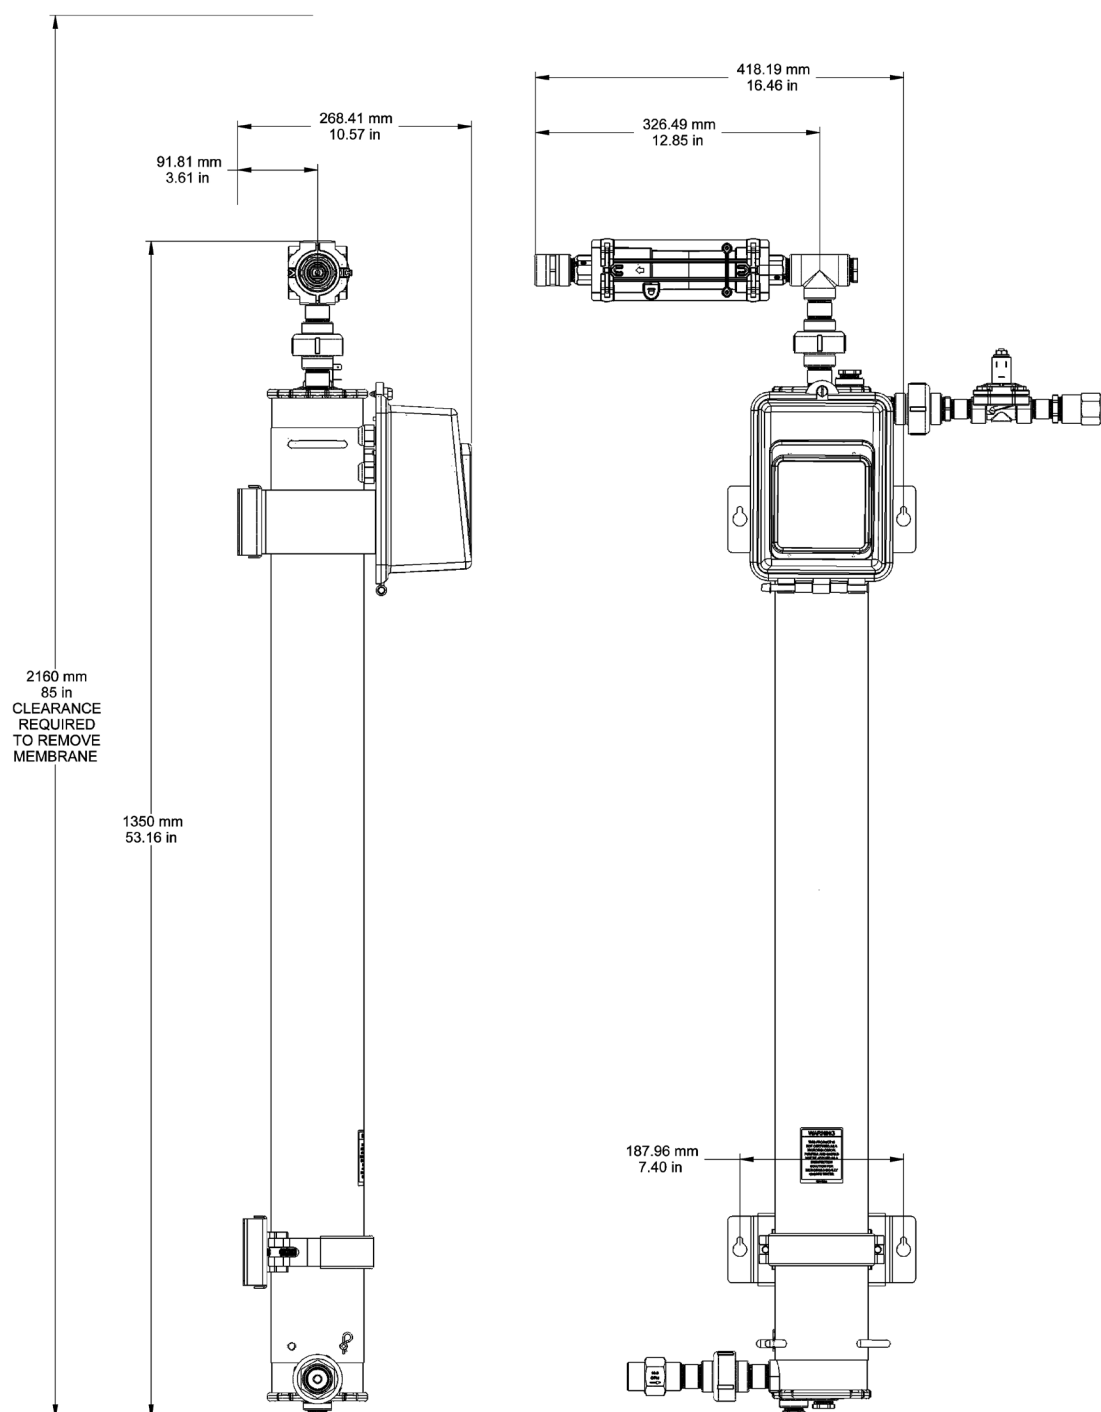

Figure 3: Dimensional Drawing for the FreshPoint™ Ultrafiltration System
- The FreshPoint's footprint is 12" x 12" (30 x 30 cm), exclusive of plumbing connections. The FreshPoint™ requires 85" (2.1 m) of vertical room to allow for removal of the membrane, unless plumbing accommodations are made (e.g.: unions). See Figure 3 for a typical installation with dimensions.